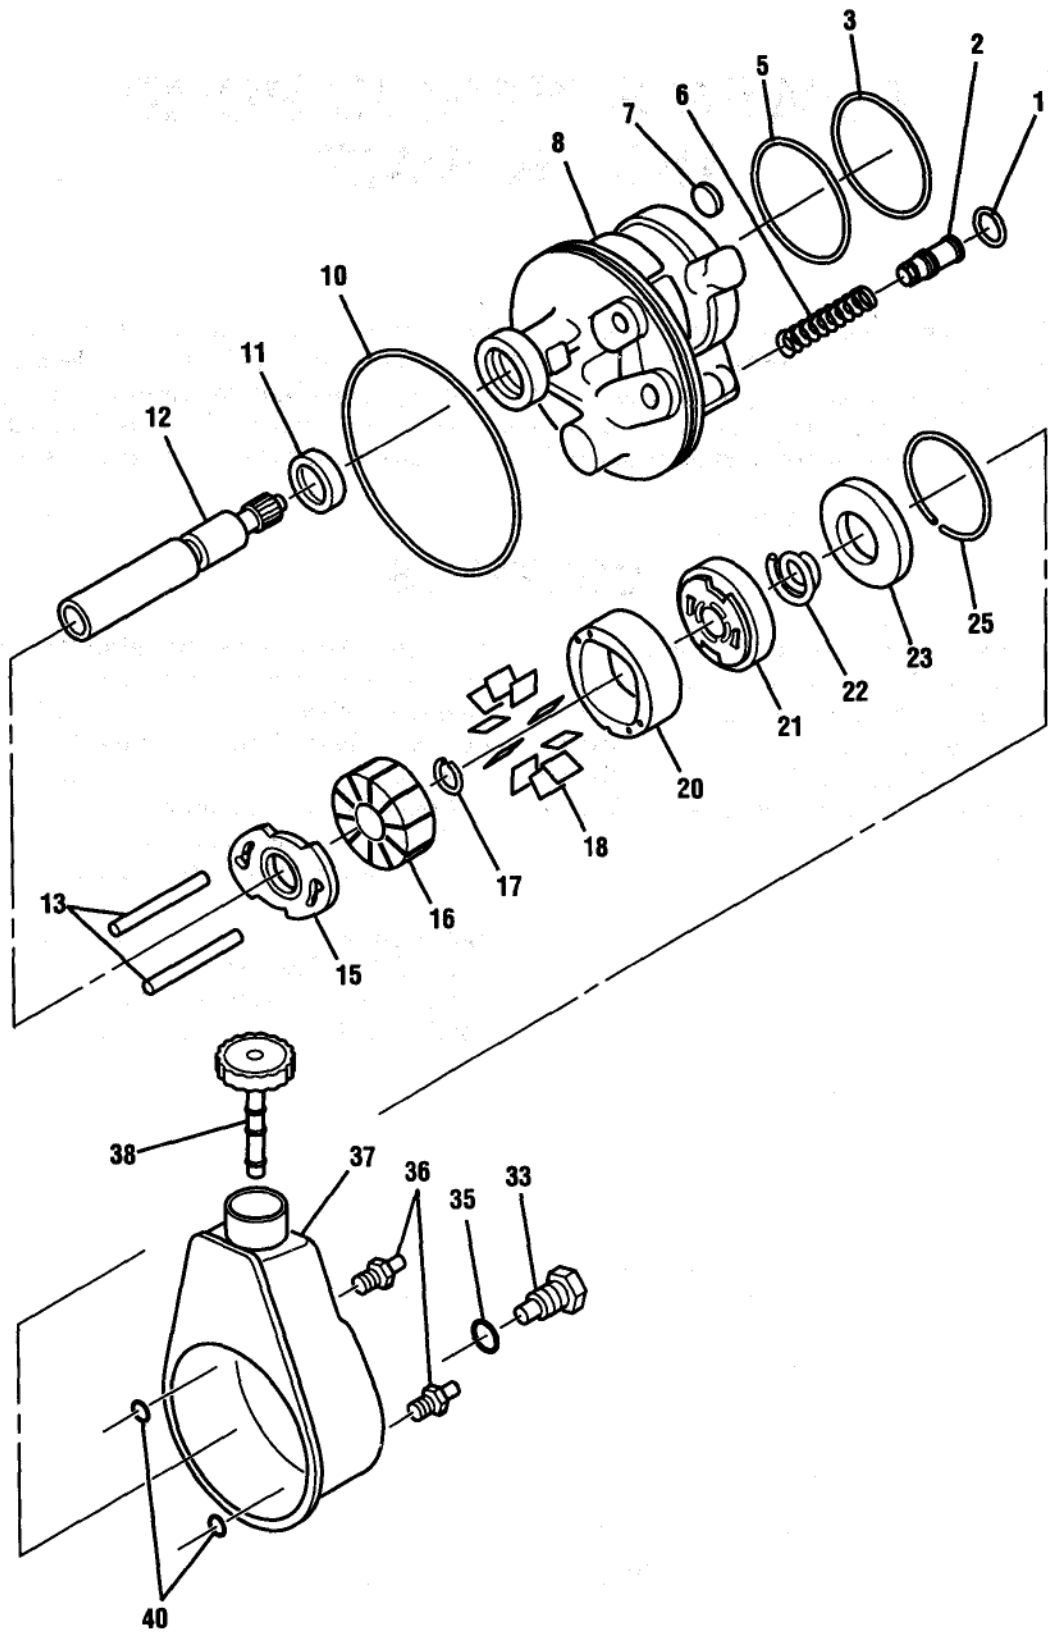

Figure 1 P Series Power Steering Pump
1. Flow control spring (6) and control valve assembly (2) to housing (8). See Figure 1 for proper orientation.
2. O-ring seals (1, 10, and 40) to housing (8).
3. Magnet (7) to housing (8).
4. Reservoir (37) to housing (8).
5. O-ring seal (35) and fitting (33).